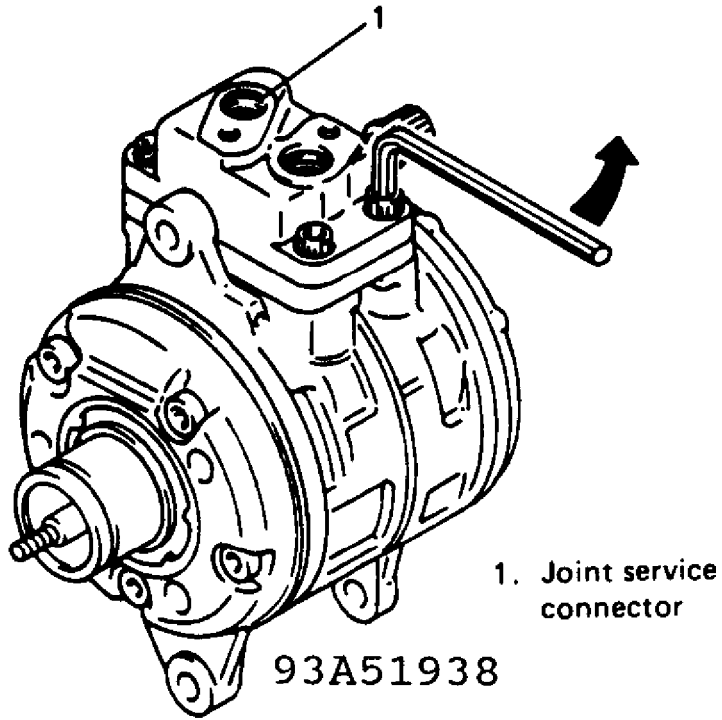

Fig. 14: Joint Service Connector Removal
7. Remove joint service connector. See Fig. 14. Remove "O" rings from service valve and discard them.